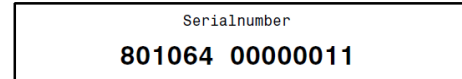

Fig.16: Example, sticker with the 14-digit serial number
- Serial number of the device (see power rating plate → Chapter 2.2.1 / additional stickers on the left frame of the device; see → Fig.16),